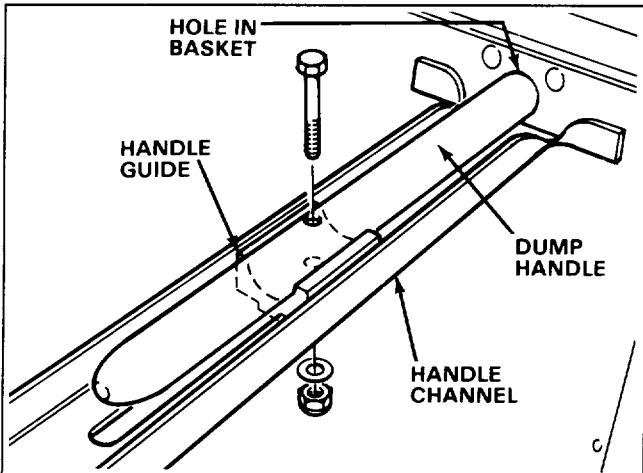

Figure 4
- Open grass basket and slide dump handle through hole in top of basket and into handle channel (Fig. 4). Make sure handle grip points toward front of grass basket.
- Lift up on end of dump handle allowing handle guide to be positioned onto handle and into channel (Fig. 4). Align hole in guide with hole in dump handle. Secure handle guide and dump handle to channel with a 1/4-20 x 2" lg. capscrew, flatwasher and locknut. Dump handle and guide must slide freely in handle channel.